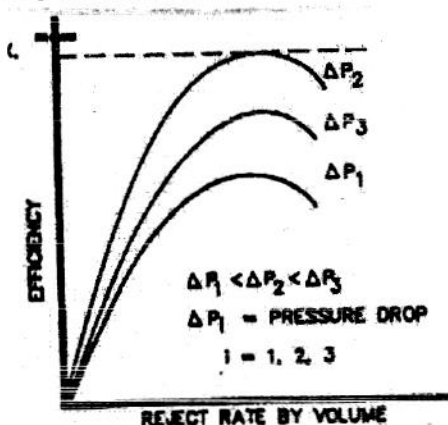

Fig. 1
c) Figure 1 shown below explains the efficiency of hydro-cyclones versus reject rate by volume. It is given that $\Delta P_1 = 50 \text{ kPa}$, $\Delta P_2 = 150 \text{ kPa}$ and $\Delta P_3 = 300 \text{ kPa}$. Justify why efficiency falls at ΔP_1 and ΔP_3 pressure difference? 3